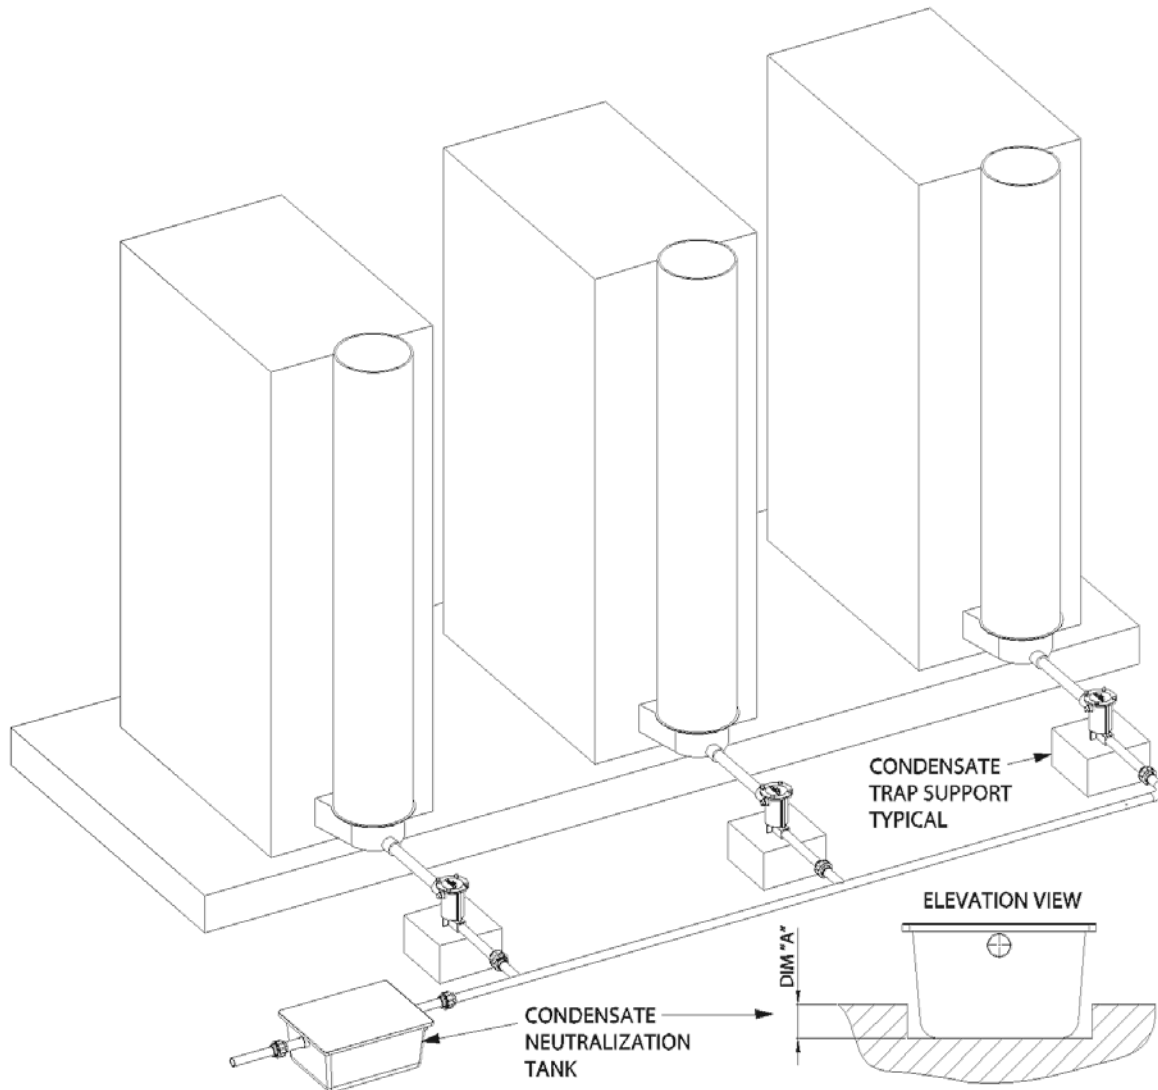
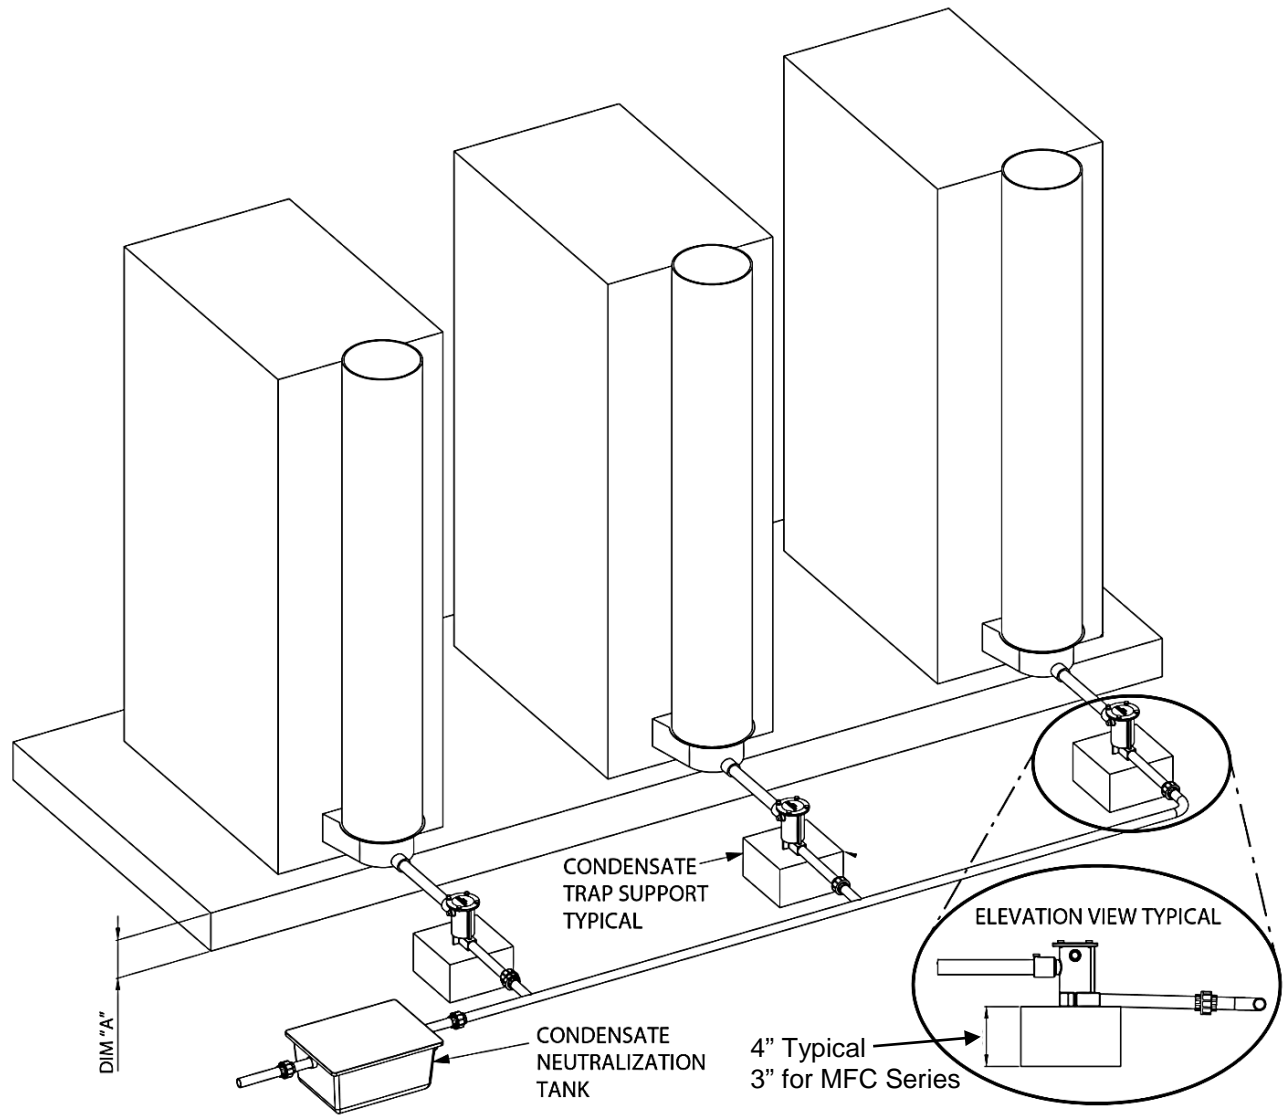

Figure 2: Multiple Boiler Units with Tank (P/N 89030) Placed in a Pit
Figure 3: Elevated Multiple Boiler Units with Tank (P/N 89030)
- Neutralization tank is installed such that the inlet and discharge of the tank are at a lower elevation than the AERCO condensate trap outlet. This can be achieved by a) installing the neutralization tank in a pit (Figure 2), or b) elevating the AERCO boiler/water heaters and the AERCO condensate traps (see Figure 3).